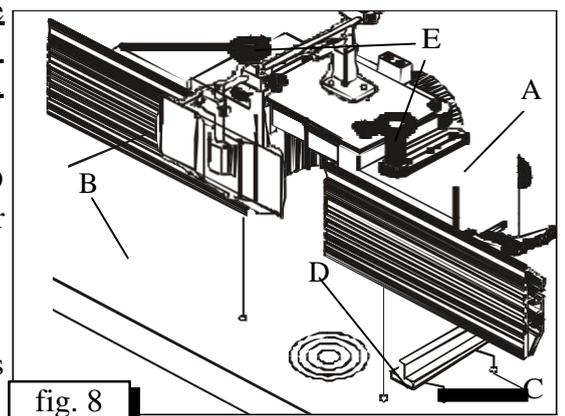

fig. 8
- Put centering plank D (fig. 8) so that pins enter